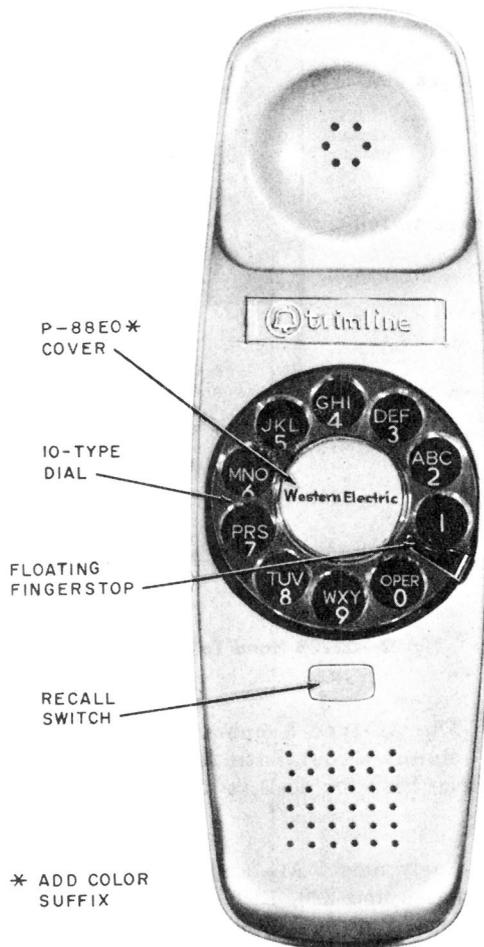

Fig. 1—220A Hand Telephone Set
2.01 The 220A, 1220A(MD), and 2220B hand telephone sets (Fig. 1 and 2) are components of the TRIMLINE® telephone set. The ringer, line switch, terminal board, and jacks for the handset